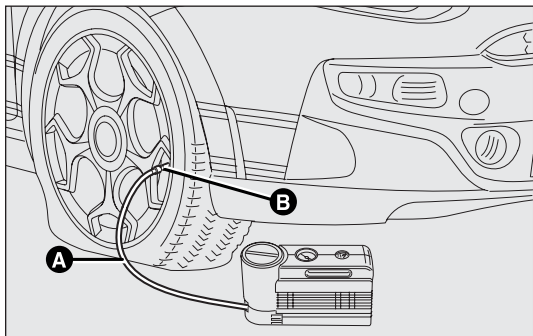

fig. 129
- ❑ Apply the handbrake. Unscrew the tyre valve cap, take out the transparent flexible filler tube A-fig. 129 and tighten the ring nut B on the tyre valve;